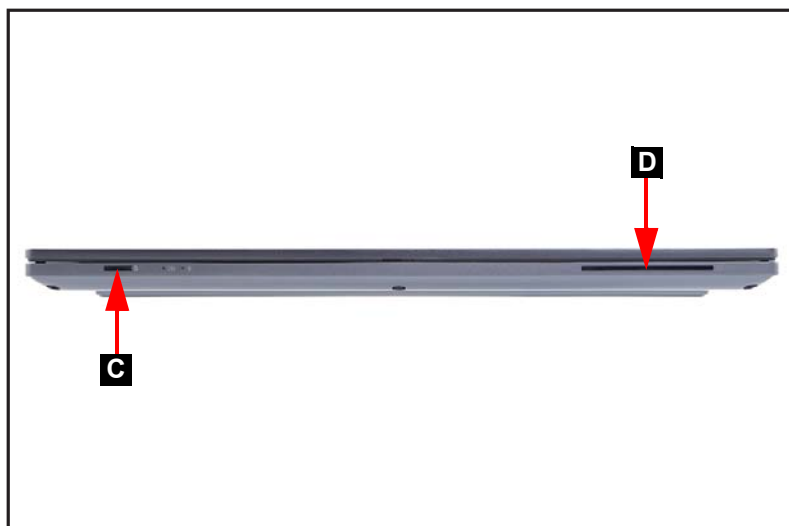

Figure 1-2. microSD Card and Smart Card Removal
4. Remove the microSD card from the microSD card slot (C). Then remove the smart card from the smart card slot (D) (Figure 1-2).